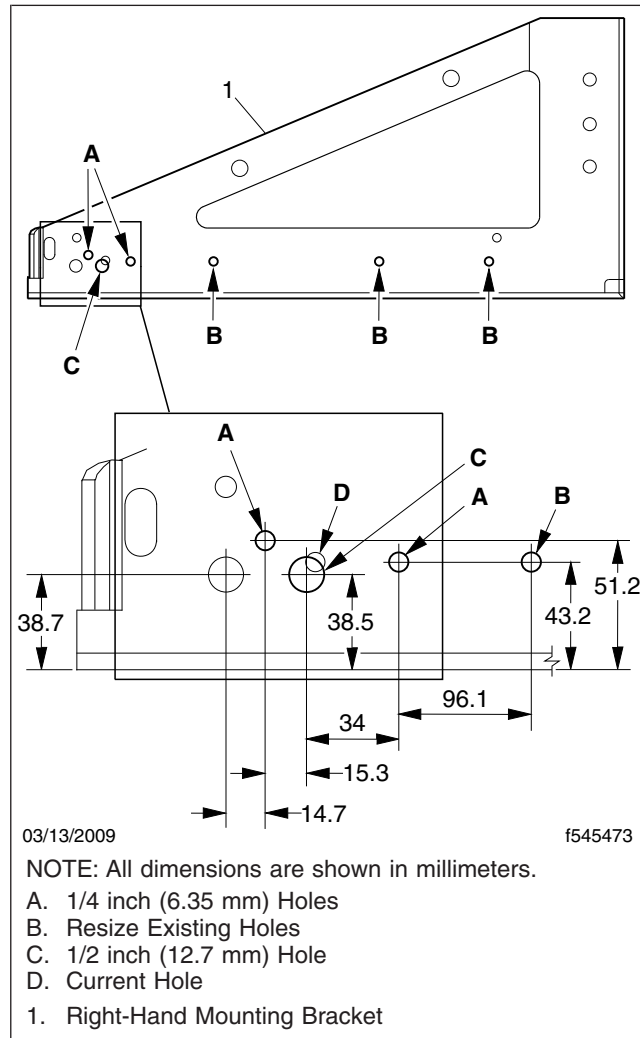

Fig. 2, Dimensions for Current and New Bracket Holes
9. Modify the current bracket to mount the new heavy-duty slides. Use the dimensions shown in Fig. 2.
- 9.1 Drill two new 1/4 inch (6.35 mm) holes in the bracket as shown in Fig. 2, Ref. A.
- 9.2 Drill a new 1/2 inch (12.7 mm) hole in the bracket as shown in Fig. 2, Ref. C.
- 9.3 The new heavy-duty slides use M6 fasteners. All of the current holes will need to be resized from number 10 to 1/4 inch (6.35 mm). See Fig. 2, Ref. B.